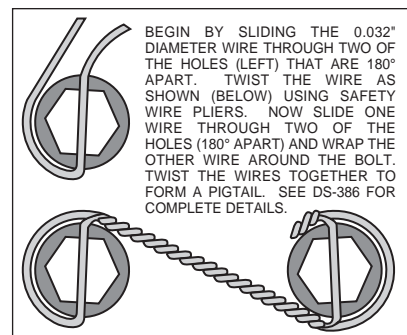

Figure 3. Safety Wire Diagram
- Apply red *Loctite*® 271 to bolt threads (2 and 3) before assembly of the caliper mounting bracket (1). Mount bracket (1) to dust face plate of spindle by screwing bolts (2) into steering arm, finger tighten only. Install bolts (3) through caliper mounting bracket (1) and steering arm, secure with lock washer (4) and nut (5), finger tighten only. Torque bolts (2 and 3) to 30-35 ft-lb. **NOTE:** Be sure the heads of the bracket (1) insert nuts are facing outward toward the wheel.
- Install wheel studs (6) into the hub (7). Torque to 77 ft-lb. **NOTE:** There are two five lug patterns in the hub (5 x 4.50 and 5 x 4.75). Make sure of the correct hole pattern for the correct wheel application before installing studs into hub.
- Pack the large inner bearing cone (8) with high temperature disc brake bearing grease (available from your local auto parts store) and install into the backside of the hub (7).
- Install the grease seal (9) by pressing into the backside of the hub (7).
- Attach rotor adapter plate (10) to rotor (11) using bolts (12). Using an alternating sequence, apply red *Loctite*® 271 to the threads and torque bolts (12) to 25 ft-lb. For an added measure of security, the bolts may be safety wired using standard 0.032 inch diameter stainless steel safety wire as shown in Figure 3. Please refer to Wilwood's data sheet DS-386 (available at www.wilwood.com/Pdf/DataSheets/ds386.pdf) for complete safety wire installation instructions. **NOTE:** Dished side of adapter plate (10) should face hub (7). The mounting tabs on the rotor (11) should face toward the hub as well and line up with the holes on the adapter plate (10).